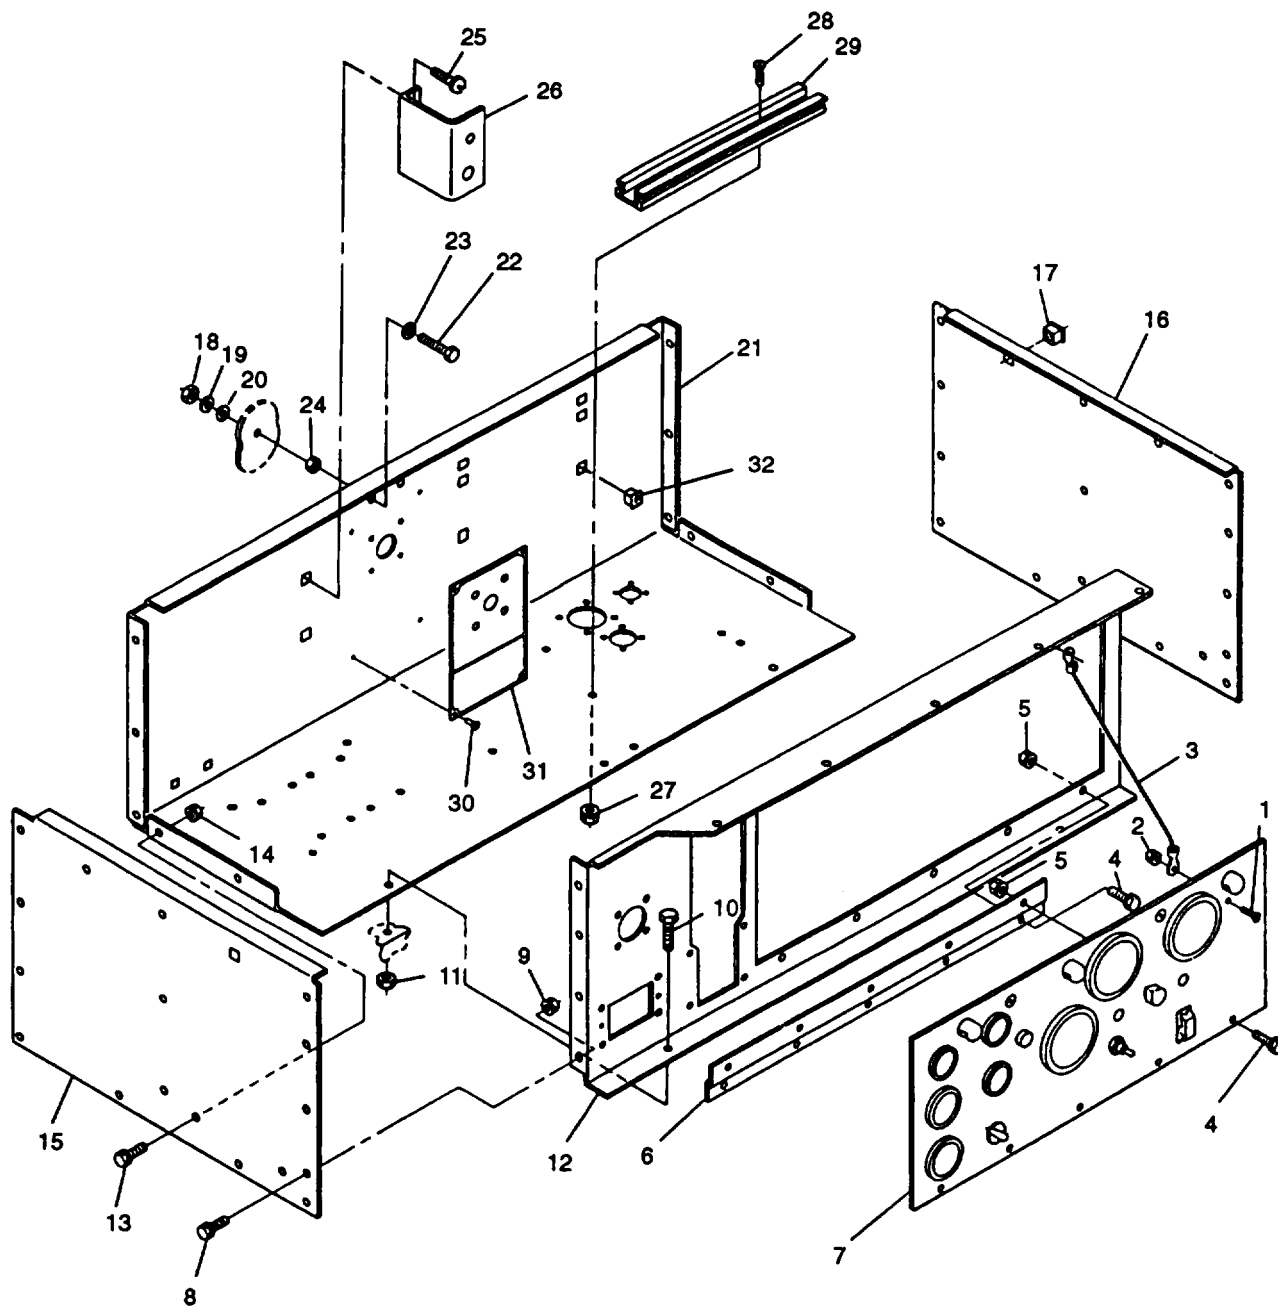

FIGURE 2-15. Control Box Housing and Control Panel
- e. Remove screw (1, FIGURE 2-15), nut (2), and strap (3).
- f. Remove bolts (4), nuts (5), hinge (6), and control panel (7) from control box.
- a. Install hinge (6, FIGURE 2-15) on control panel (7) with bolts (4) and nuts (5).
- b. Install control panel (7), with hinge (6) attached, on control box with bolts (4) and nuts (5).
- c. Install strap (3) with screw (1) and nut (2).
- i. Remove bolts (8 and 10, FIGURE 2-15), nuts (9) and (11), and control panel frame (12).
Inspect control panel frame (12, FIGURE 2-15) for dents, cracks, loose paint, and corrosion.
- a. Install control panel frame (12, FIGURE 2-15) on control box assembly with bolts (8) and (10), and nuts (9) and (11).
- a. Inspect control box side panels (15 and 16, FIGURE 2-15) for dents, cracks, loose paint, and corrosion.
- b. Inspect for missing and damaged cage nuts (17).
- d. Remove bolts (8 and 13, FIGURE 2-15) and nuts (9) and (14).
- e. Remove control box side panels (15) and (16).
- a. Install control box side panels (15 and 16, FIGURE 2-15) with bolts (8) and (13), and nuts (9) and (14).
- i. Remove nuts (18, FIGURE 2-15), lockwashers (19), washers (20), and control box tray (21) from generator set.
- j. Remove bolts (22), washers (23), and nuts (24) from tray (21).
- k. Remove screws (25) and controls bracket (26).
- l. Remove screws (28), nuts (27), and tracks (29). Drill out rivets (30) and remove voltage reconnection switch plate (31).
- a. Inspect control box tray (21, FIGURE 2-15) for dents, cracks, loose paint, and corrosion.
- b. Inspect for damaged and missing cage nuts (32).
- c. Repaint surface in accordance with TM 43-0139. (F) Refer to applicable directives.
- d. Replace all missing or damaged cage nuts (32, FIGURE 2-15).
- a. Install voltage reconnection switch plate (31, FIGURE 2-15) with new rivets (30).
- b. Install bolts (22), washers (23), and nuts (24) in control box tray (21).
- c. Install tracks (29) and secure with screws (28) and nuts (27).
- d. Install controls bracket (26) with screws (25).
- e. Position control box tray (21) in generator set and install washers (20), lockwashers (19), and nuts (18).